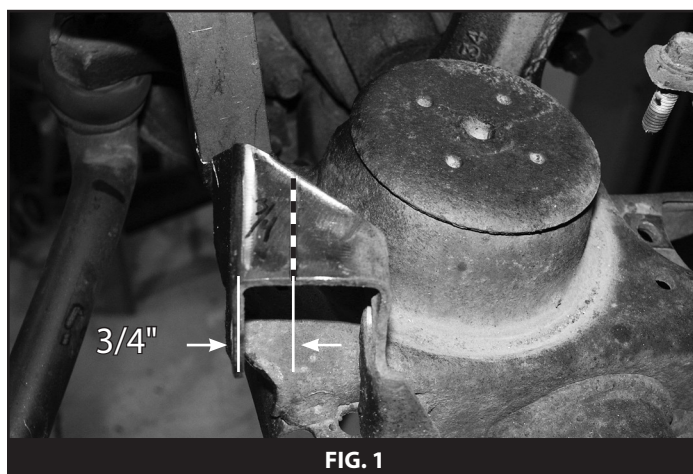

FIG. 1
9. Measure back from the front face of the factory stabilizer mount bracket toward the rear $\frac{3}{4}$ " and mark on the top of the bracket. Make a line along the top of the bracket, parallel to the front face at the $\frac{3}{4}$ " marked distance (Fig 1). This will be a reference line for installing the new stabilizer mount/support gusset.